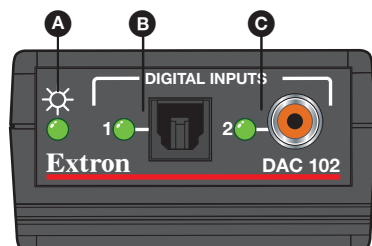

Figure 2. DAC 102 Front Panel
- A Power/Config USB Mini-B Connection** — Connect the DAC 102 to a 5V USB power source (such as a USB port found on most display devices) using the included USB A to mini-B cable. The USB connection may also be used with a PC for configuration and firmware updates when needed. The front panel power status LED indicator (see figure 2, **A**) will illuminate solid green when powered on.